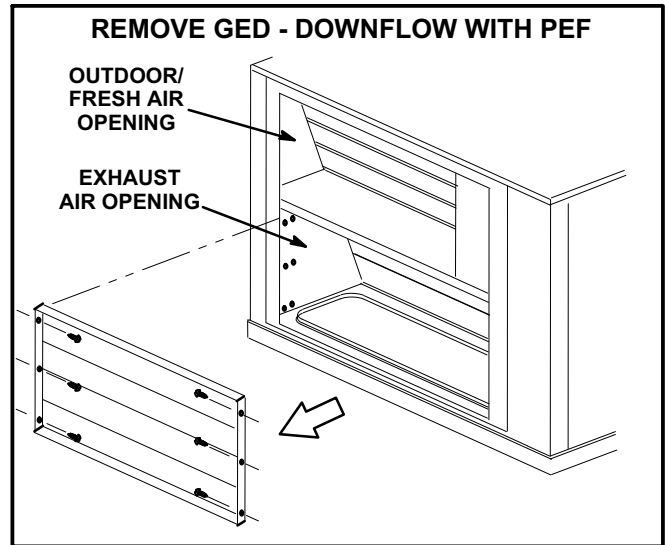

FIGURE 8
- 1- Remove GED from the economizer and install in the fresh / exhaust air hood when optional power exhaust fans are installed. See figure 8.